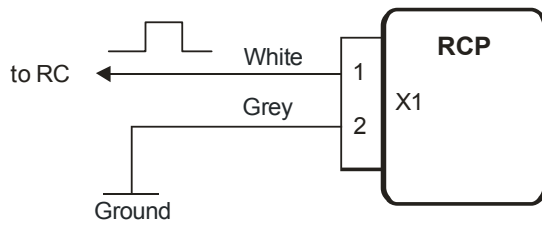
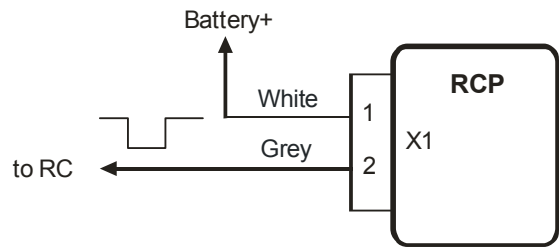

Figure 4
Figure 5
- The fig.4 presents the scheme of turning the heater off by the impulse of positive polarity. The fig.5 presents the scheme of turning the heater off by the impulse of negative polarity.